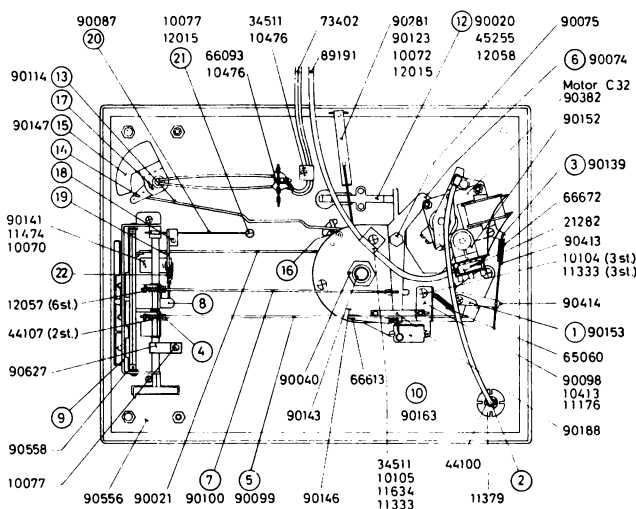
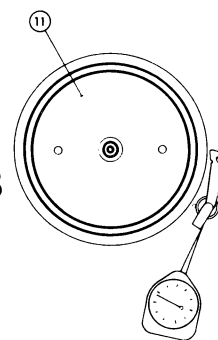

Fig. 1
Fig. 2
TRYCK NED KNAPPEN FÖR 33 1/3 V/MIN OCH JUSTERA ANSLAGSPLÅTEN (1) FIG. 1, SÅ ATT EN KRAFT AV 75 - 80 POND ERHÅLLES, DÅ EN MÄTKLOCKA ANSÄTTES ENL FIG (2). REGLERA MOTORNS HASTIGHET MED HASTIGHETSREGLAGET (2) ENL FIG (1) EFTER APPARATENS STROBOSKOPSKIVA, SÅ ATT HASTIGHETEN BLIR SÅ EXAKT SOM MÖJLIGT, DVS STROBOSKOPSBILDEN STÅR STILLA.
OM FJÄDERKRAFTEN MÅSTE ÄNDRAS AVSEVÄRT, KAN DET VARA LÄMPLIGT ATT VRIDA FJÄDERFÄSTET (3) FIG 1 OCH HÄRIGENOM ERHÅLLA GROVJUSTERING.
ÄNDRING AV BROMSKRAFTEN MOT SKIVTALLRIKEN (11) FIG 2 GÖRES MED MUTTRARNA FÖR BROMSPLÅT (12) FIG 1. SPELAREN KÖRES PÅ 45 V/MIN. BROMSKRAFTEN ANPASSAS SÅ ATT SKIVTALLRIKEN ROTERAR CA 3/4 VARV SEDAN STOPPKNAPPEN NEDTRYCKTS. EFTER INSTÄLLNINGEN LÅSES MUTTRARNA MED LÅSLACK.